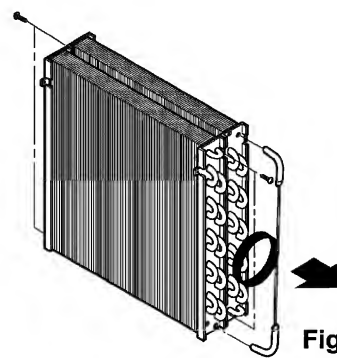

Figure 28
7. Unbrazed the capillary tube at the connections of the condenser and evaporator. (See Figure 28)
8. Remove 4 screws between the condenser and evaporator. (See Figure 28)